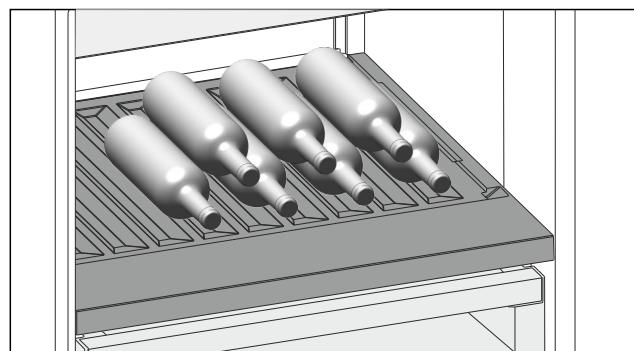

Fig. 125
- ▶ Place bottles in the back row with their bases against the back wall. (see Fig. 125)